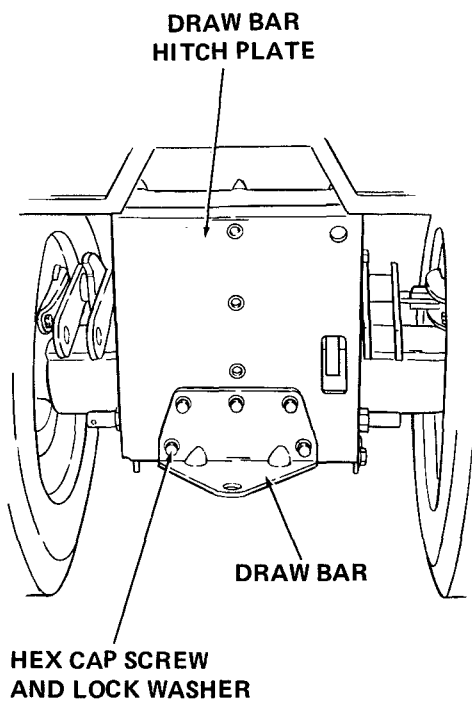

Figure B-16
- c. Attach front end of lift bar to hydraulic lift clevis assembly by placing clevis pin (N) through hole in frame and securing with cotter pin retained from step 5a.
- 6. Install draw bar hitch plate on 3-point hitch plate with five hex cap screws and lock washers retained from Section II, step 5. Refer to Figure B-16.